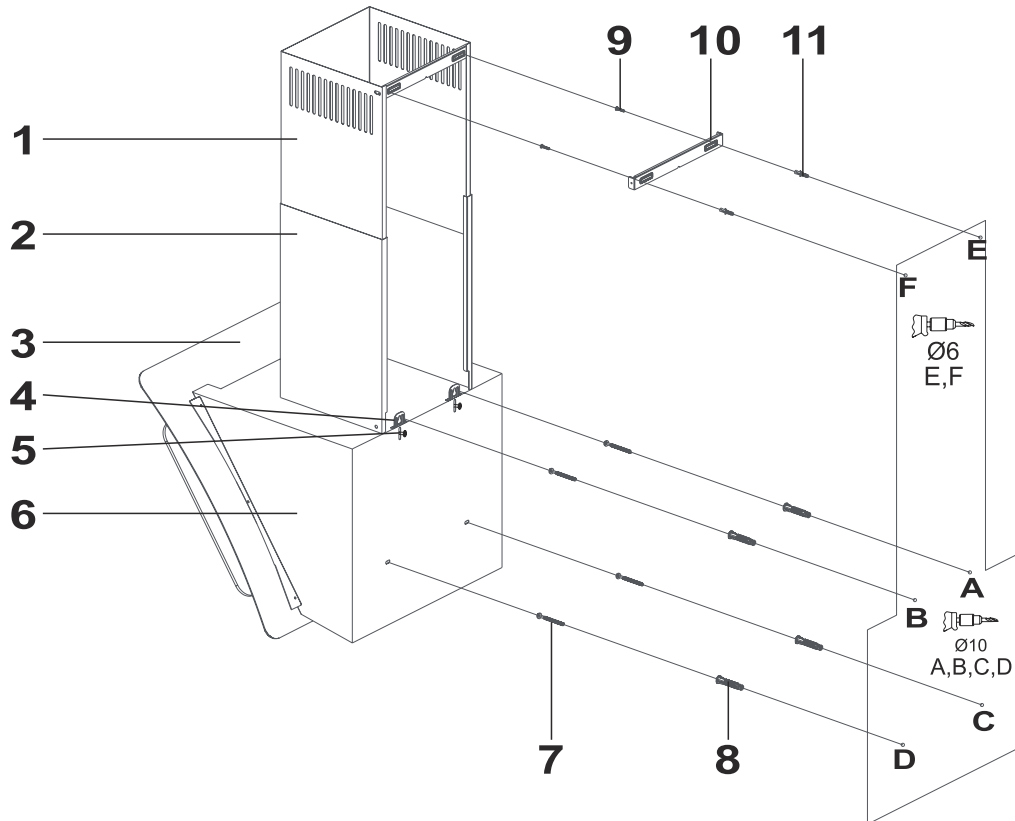

Fig. 10: ASSEMBLY INSTALLATION AND COMPONENTS
- Assemble the cooker hood with the help of the assembly scheme (Fig. 10).
- Affix the assembly pattern on the wall, at the specified height (See the minimum and maximum distances intended for the worktop, in the assembly pattern). Perforate points A, B, C and D (Fig. 10).
- Insert Ø10mm wall plugs into the holes drilled as A, B, C, and D and screw down the screws at the points A + B, in such a way as to remain 5mm space between the screw head and the wall (Fig. 10).
- Tighten A + B (2) fixing screw on the wall, and completely secure the product from its points D and C (Fig. 10).